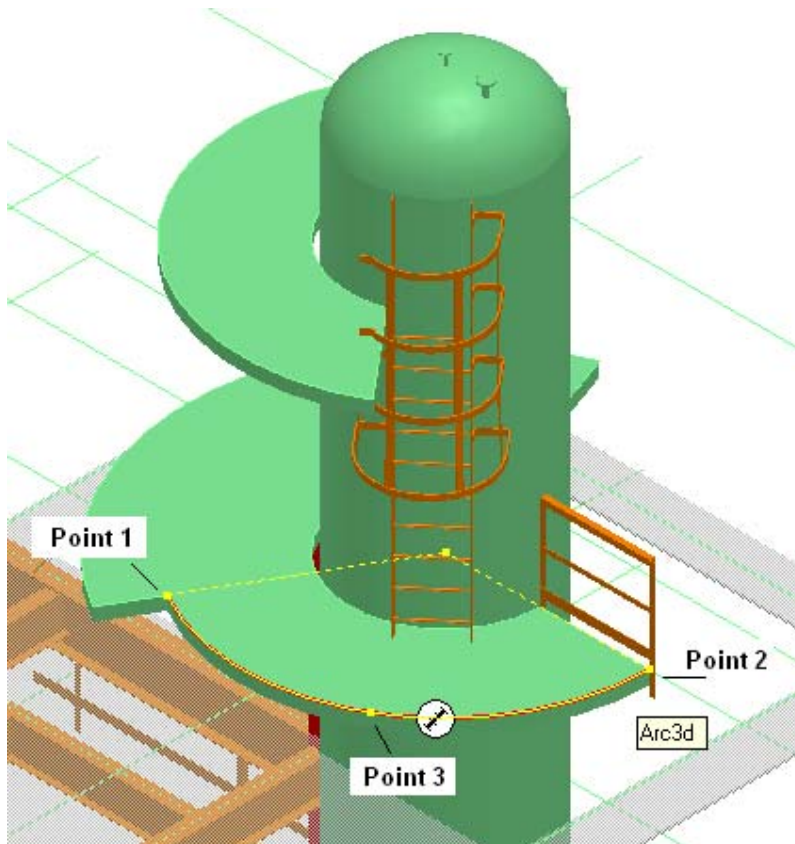

Figure 43: Handrail Path
47. Sketch the path of the handrail as shown in Figure 43